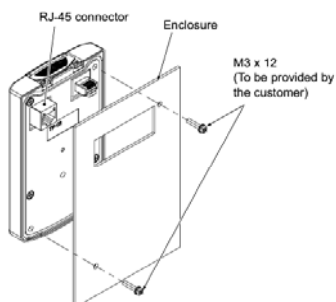

Figure 2.33 Mounting Multi-function Keypad
- ② Make a cut-out on the enclosure wall. For details, refer to Chapter 8, Section 8.5.3 "Multi-function keypad"
- ③ Mount the Multi-function keypad onto the enclosure with 2 screws as shown in Figure 2.33. (Recommended tightening torque: 0.7 N·m)